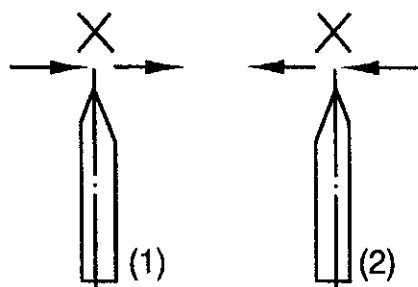
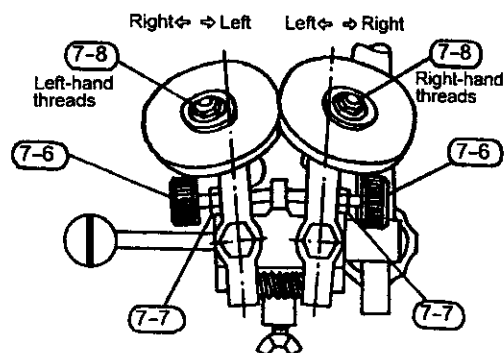

Fig.9
Fig. 10
4. If the blade is ground unevenly as shown in Fig.9, then adjust the two grinding wheels left or right by turning the two knurled screws(7-6) shown in Fig.10.The arrows in Fig.9 indicate the moving direction of the grinding wheels.
5. Generally, the angle between two blades should be small for thin materials, and the angle should be big for heavy materials. Refer to Fig.10 for details, and the small arrow indicates the moving direction of two grinding wheels.
7. If the knife is not ground though the grinding wheels has been adjusted correctly. The grinding wheels are worn out and should be replaced. Loosen nuts shown in Fig.10 to replace.